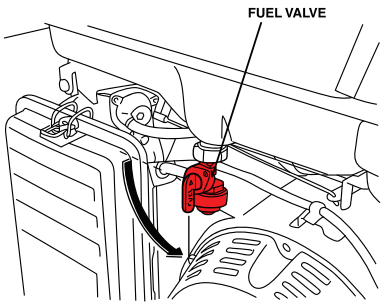

FIGURE 8
5.2.2 Open the fuel valve. **FIGURE 8.**